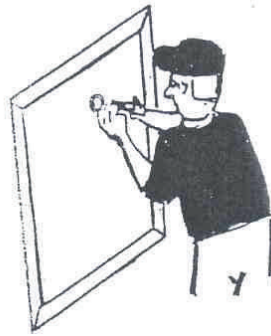

Fig. 1
2. Fix the hook ring opening on hatch panel as shown in the image (fig. 1).